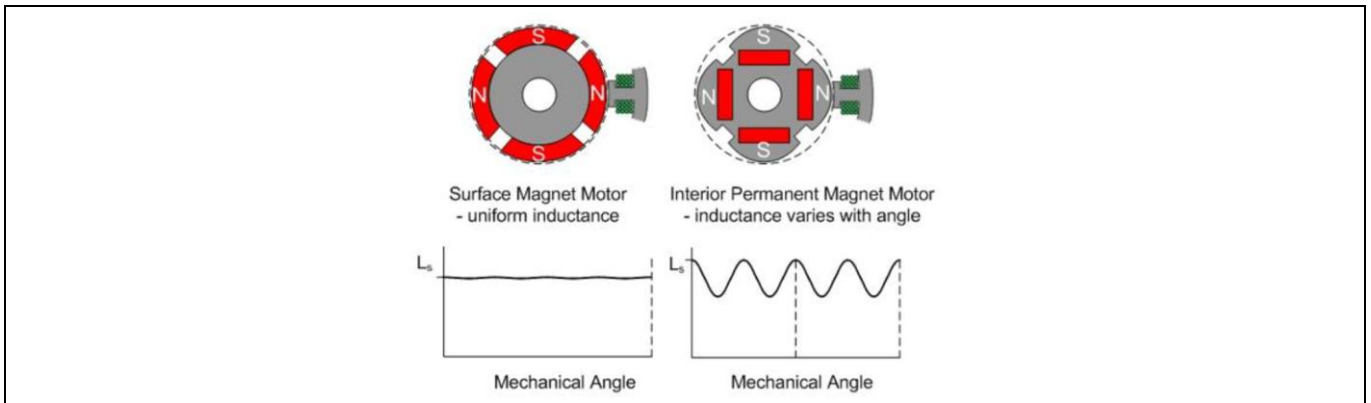

Figure 33 Motor type (PM motor, IPM motor)
When working with surface permanent magnet (PM) motors the winding inductances L_d and L_q will have the same value with any rotor angle as shown in Figure 33, left. However, when working with interior permanent magnet (IPM) motors the winding inductance varies with the rotor angle as shown in Figure 33, right, and the L_q inductance is greater than the L_d inductance.